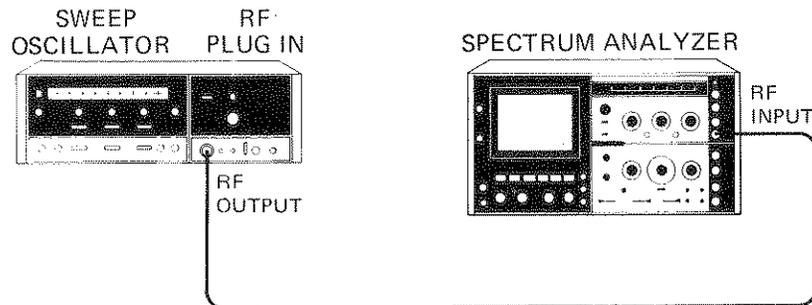

Figure 2-5. Internal Amplitude Modulation Test Setup
**PROCEDURE:** a. Connect equipment as shown in Figure 2-5. Allow 30 minutes warm-up time.